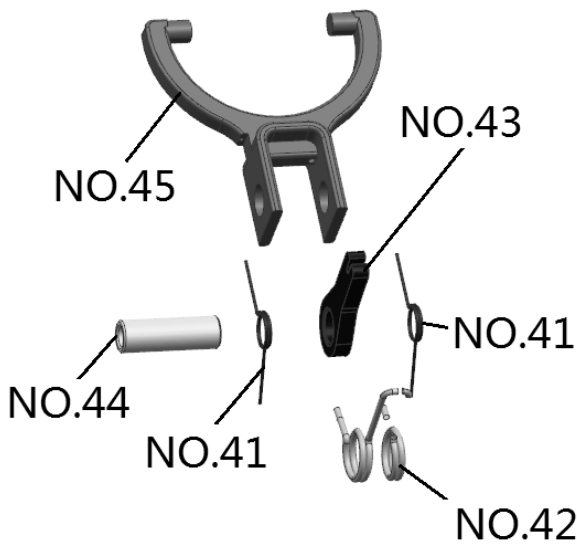

Fig 13
14. Inspect the shift lever (NO.43), shift level spring (NO.42), shift return spring (NO.41), shift yoke (NO.45), and lock shift bar (NO.44). Inspect the components for excessive wear or damage and replace as needed. → Fig 13
- 4. If previously removed; assemble the shaft lever, shift lever spring, shift return springs, shift yoke, and lock pin bushing. → Fig 13